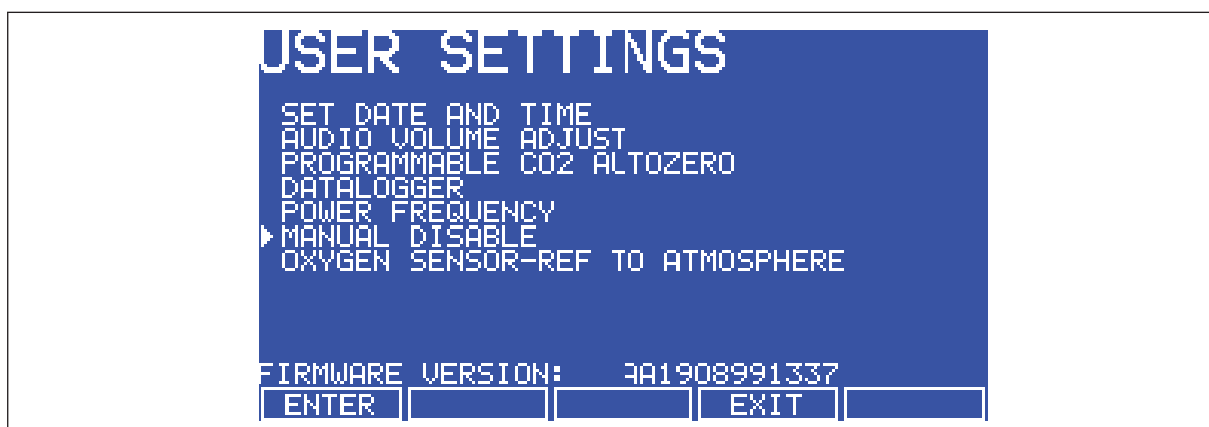

Fig. 12-3: USER SETTINGS Screen
5. Enable the oxygen control: (a) press the **USER** function key, (b) using the ▲ or ▼ direction key, select **MANUAL DISABLE** (see Fig. 12-3 on p. 73), (c) press the **ENTER** function key, (d) select **ENABLE** for Oxygen Control using the ◀ or ▶ direction key, then (e) press the **ENTER** function key.